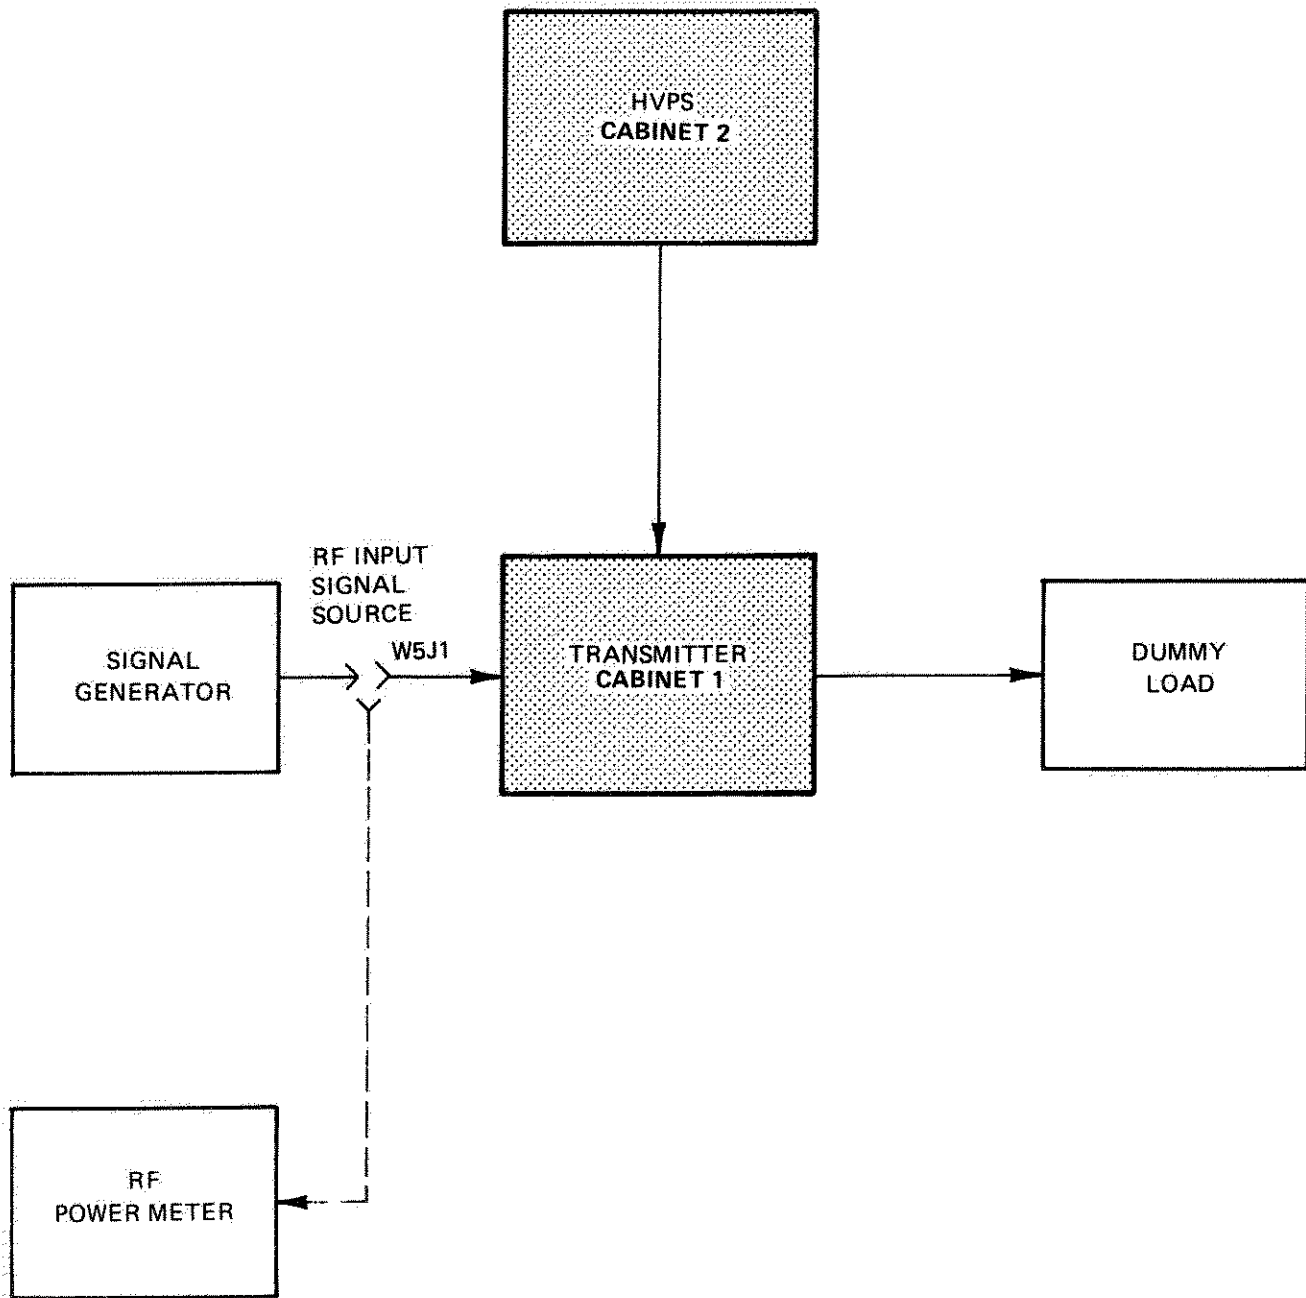

Figure 6-155. Input Overdrive Equipment Setup
2. Set up equipment per Figure 6-155. Connect RF signal generator output to RF INPUT SIGNAL SOURCE jack on RF SIGNAL MONITORS panel. Set RF INPUT SELECTOR switch 1A25S2 to LOCAL position.